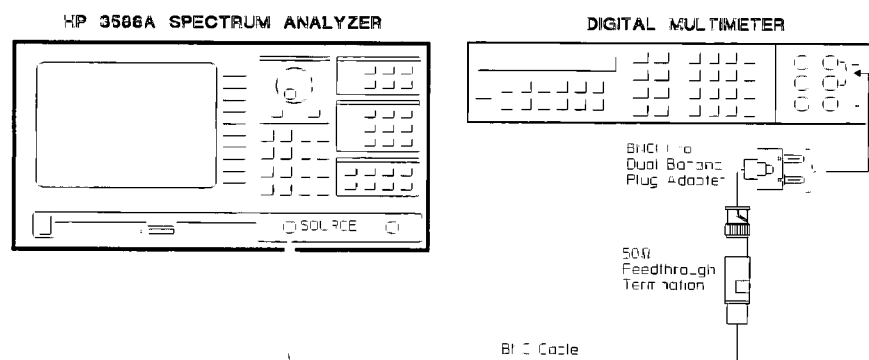

Figure 3-11 Low Frequency Response Setup
- Connect the test equipment as shown in figure 3-11.